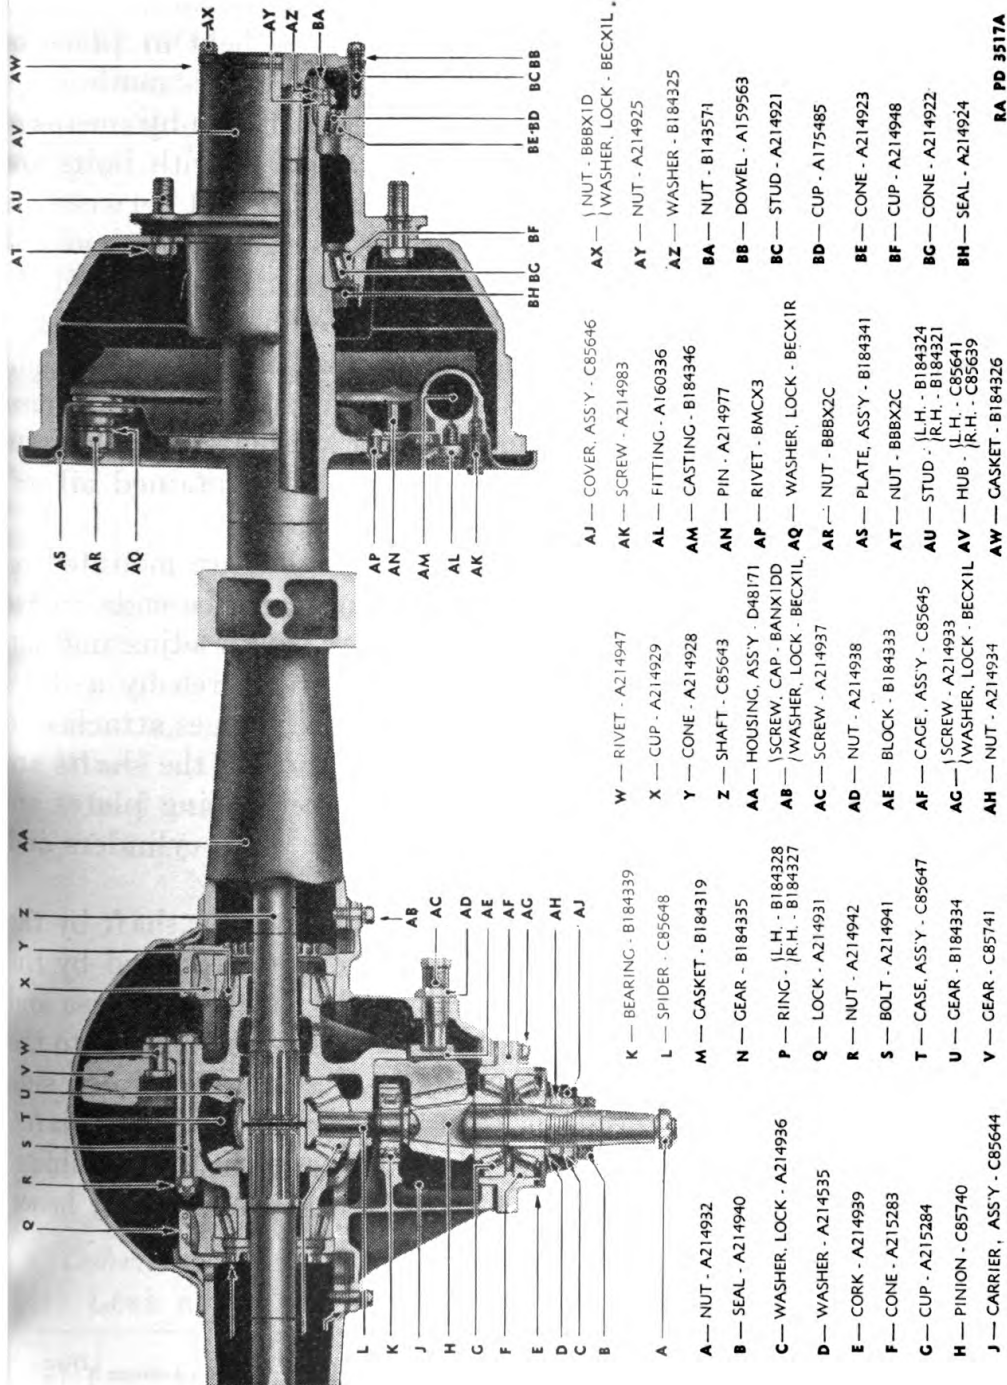

FIGURE 44.—Rear axle (jackshaft) assembly, sectionalized.
*a. Construction* (fig. 44).—(1) The rear axle (jackshaft) consists of a banjo type housing which has a pressed steel center with forged steel outer ends welded to the housing. The differential and bevel gear assembly, together with the pinion assembly, are mounted in the carrier